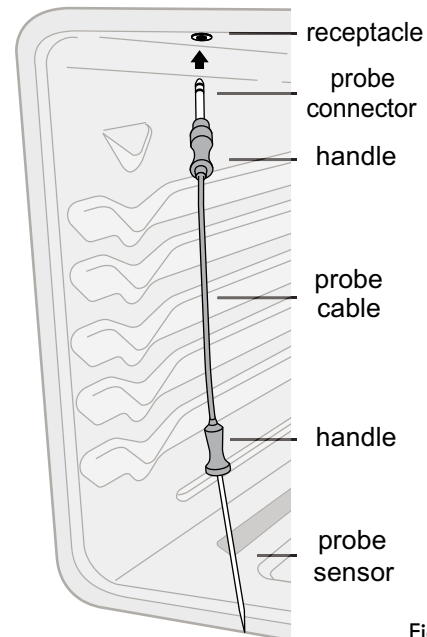

Fig. 3
3. Plug the meat probe into the probe receptacle located on the left front oven cavity top (See Fig. 3 for location of probe receptacle).